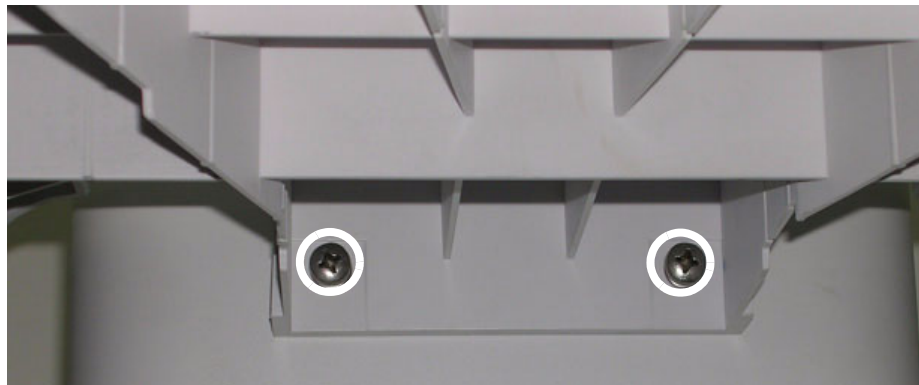

Figure 8-105 Probe Shelf Assembly - Lower Securing Screws
- 2) Working from the *front* of the SafeLock Cart and underneath the probe shelf assembly, loosen and remove the two lower screws (highlighted), that secure the shelf in position, Figure 8-105 below.